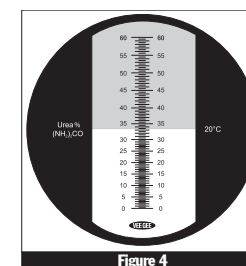
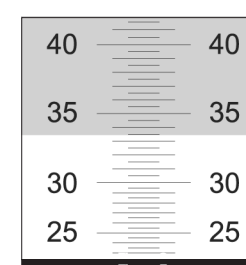

Figure 4
Figure 5
- 4 When the refractometer scale is viewed through the eyepiece, the upper field of view will be seen as blue and the lower field will be seen as white (Figure 4). The reading is taken at the point where the boundary line of the blue and white fields crosses the scale (Figure 5). The value is the Urea% reading of the sample.